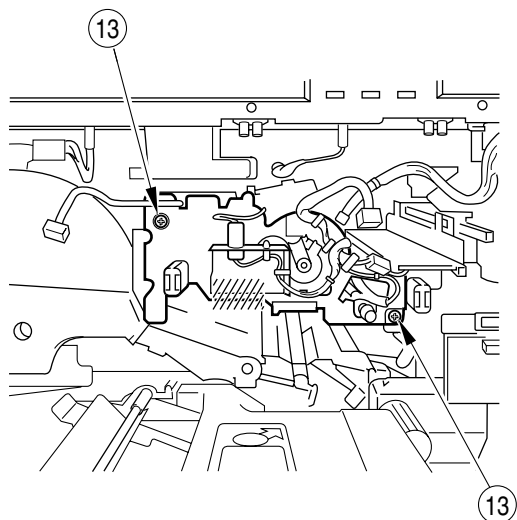

Figure 4-507
- 11) Remove the two mounting screws ⑬ (W/washer, silver); then, hook a finger in the shaded area (Figure 4-507) of the front plate, and move the drum unit to the front until it stops.